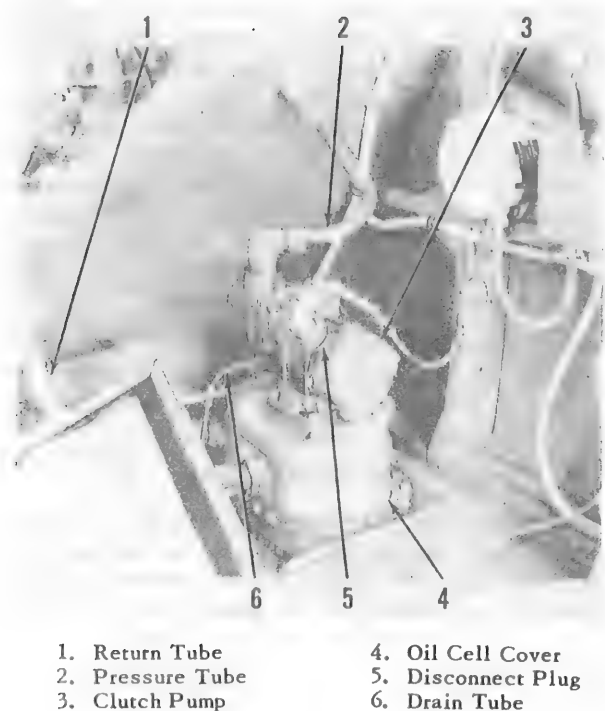

Figure 3-85. Clutch Pump
3-458. DESCRIPTION. (See figure 3-85.) On helicopters serial No. prior to 56-4313, an electrically driven pump, which supplies oil for the clutch is installed on the cover assembly on top of the left oil cell forward of the canted bulkhead in the engine compartment. The pump draws engine oil from the left oil cell when the CLUTCH-OFF switch on the control console is placed in the CLUTCH position. A pressure switch in the rotor brake system of helicopters serial No. 55-4462 and subsequent opens the clutch pump circuit, preventing the pump from operating when the rotor brake is engaged. A warning light is lighted during opera-
- b. Disconnect wiring to pump at disconnect plug (5, figure 3-85).
- c. Disconnect pressure tube (2) and drain tube (6) from elbow and nipple in pump housing and drain into receptacle.
- d. Remove bolts which secure clutch pump (3) to cover assembly on left oil cell.
3-461. INSTALLATION. (See figure 3-85.)